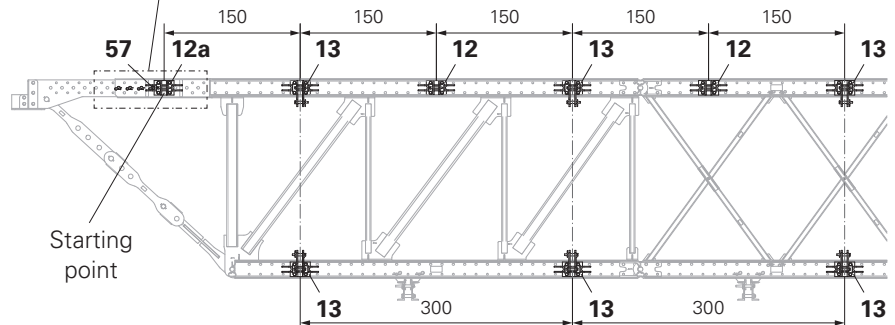

Fig. B2.01
- For Support Frames 6.0 m VRB, the distance is 150 cm in each case. (Fig. B2.01)
4. Fit the vertical bracing shoes (**13**) in the bottom chord in the same way. The position corresponds to the vertical bracing shoes (**13**) in the top chord. (Fig. B2.01 – B2.03)